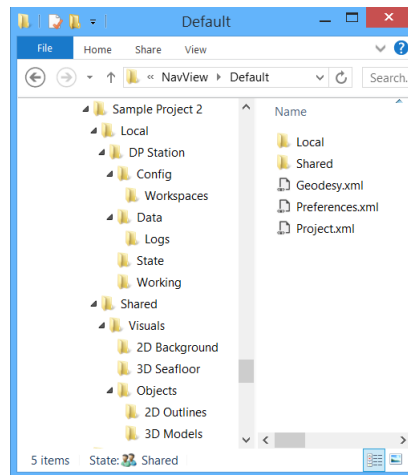

Figure 4-8 Project Folders Created
10. Click Finish to complete the creation of the new project and base configuration. NavView will create the project folder and specific base sub-folders shown in Figure 4-8 under